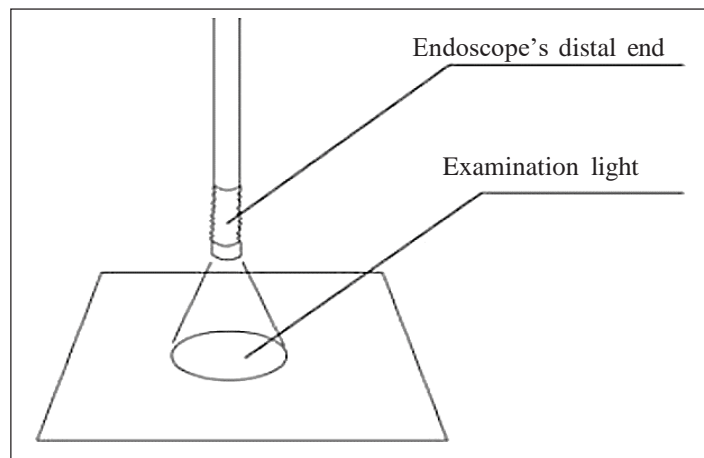

Fig4.1
2. Real time endoscopic image will show on the computer monitor, and the illumination light is emitted from the distal end of the endoscope. (Fig 4.1)